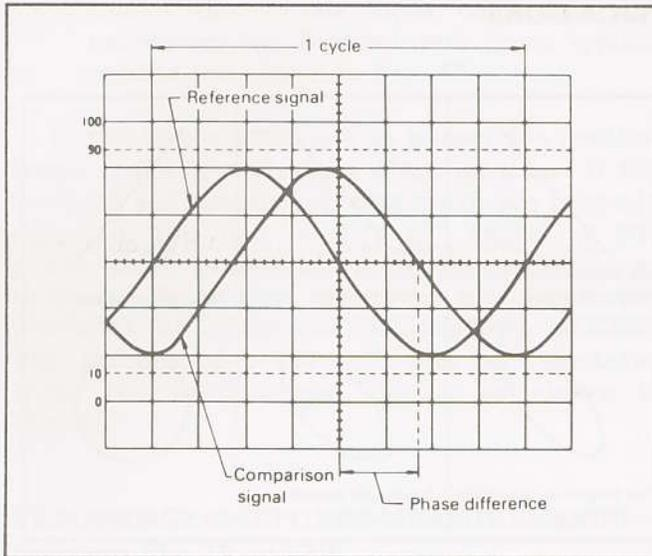

Fig. 15. Phase Difference Measurement.
Method No. 1 (Refer to Fig. 15)
- Use the vertical POSITION controls to position the waveforms in the vertical center of the screen. Use the SWEEP TIME/DIV and VARIABLE controls to adjust the display so one cycle of the reference signal occupies 8 divisions horizontally (see Fig. 15). The trigger LEVEL and horizontal POSITION controls are also useful in achieving this display. The display should be as shown in Fig. 15, where one division now represents 45° in phase.
For the example shown in Fig. 15, the horizontal distance is 1.7 divisions. Thus, the phase difference is calculated as follows: